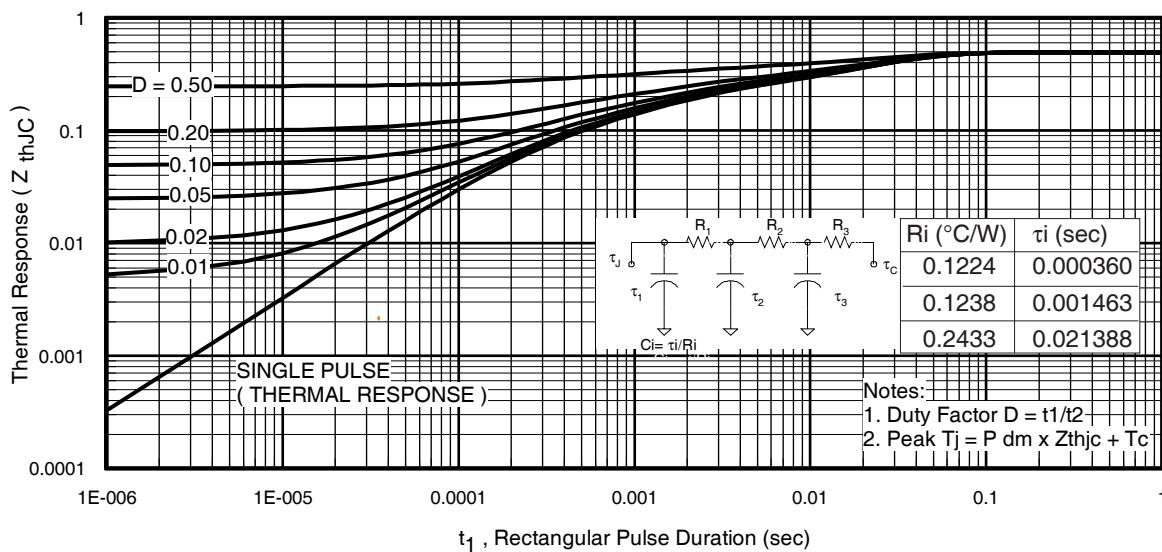
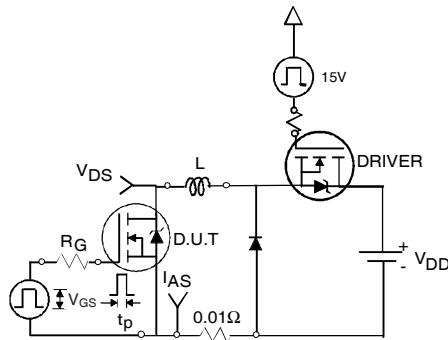

Fig 11. Maximum Effective Transient Thermal Impedance, Junction-to-Case
Fig 12a. Unclamped Inductive Test Circuit
- ① Repetitive rating; pulse width limited by max. junction temperature. (See fig. 11).
- ② Limited by $T_{J\text{max}}$, starting $T_J = 25^\circ\text{C}$, $L=0.13\text{mH}$, $R_G = 25\Omega$, $I_{AS} = 90\text{A}$, $V_{\text{GS}} = 10\text{V}$. Part not recommended for use above this value.
- ③ $I_{SD} \leq 90\text{A}$, $di/dt \leq 340\text{A}/\mu\text{s}$, $V_{\text{DD}} \leq V_{(\text{BR})\text{DSS}}$, $T_J \leq 175^\circ\text{C}$.
- ④ Pulse width $\leq 1.0\text{ms}$; duty cycle $\leq 2\%$.
- ⑤ $C_{\text{oss eff.}}$ is a fixed capacitance that gives the same charging time as C_{oss} while V_{DS} is rising from 0 to 80% V_{DSS} .
- ⑥ Limited by $T_{J\text{max}}$, see Fig.12a, 12b, 15, 16 for typical repetitive avalanche performance.
- ⑦ This value determined from sample failure population. 100% tested to this value in production.
- ⑧ R_θ is measured at T_J of approximately 90°C .
3. Equation below based on circuit and waveforms shown in Figures 12a, 12b.
- $Z_{thJC}(D, t_{av})$ = Transient thermal resistance, see figure 11